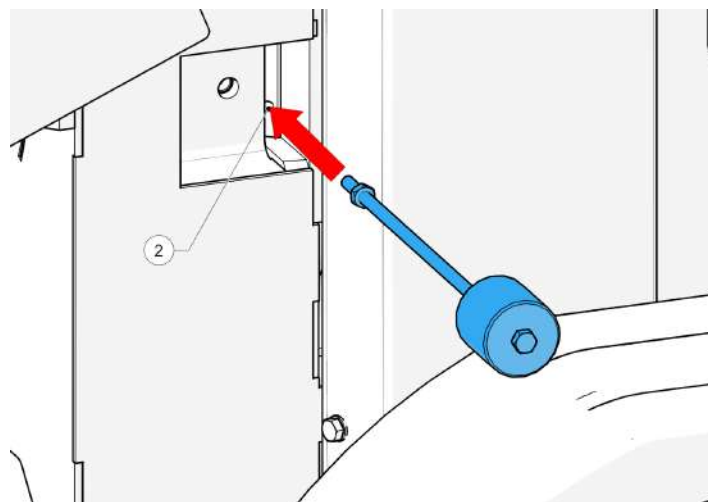

Figure 62 - Slide hammer
8. Insert a suitable slide hammer into the M8 hole (2, Figure 62).